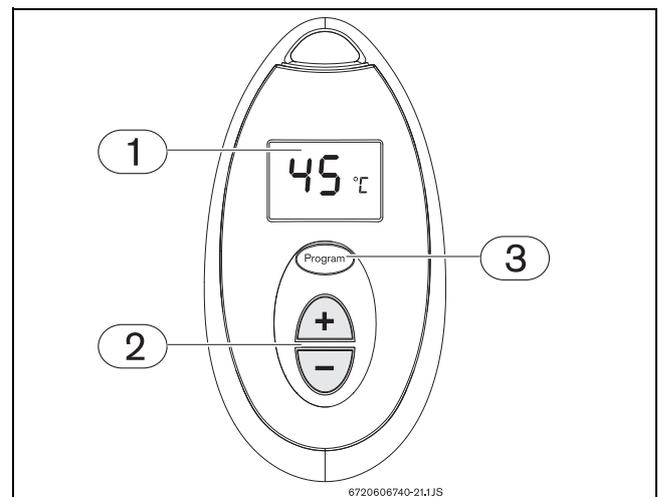

Fig. 15 Memorizing water temperature
- ▶ Press the buttons  or  on the remote control (Fig. 15, pos. 2), until the required temperature appears on the remote control display (Fig. 15, pos. 1).
- ▶ You will now be able to memorize this temperature by pressing the "Program" button on the remote control (Fig. 15, pos. 3) for 3 seconds.